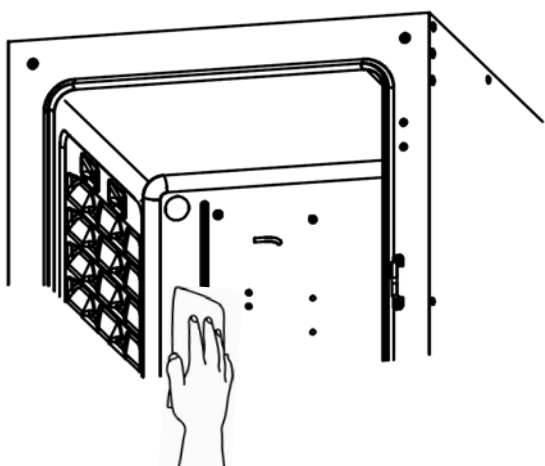

Fig. 1
2. Clean the removed inner attachments, the chamber inside walls and the inner door gaskets with a cloth or sponge soaked in neutral detergent, diluted by 5 % or less. (Undiluted detergent can damage the plastic components. For the dilution, refer to the instruction of the detergent.) (Fig. 1)
2. Open the outer and inner doors and pull out all the trays (Fig. 1).